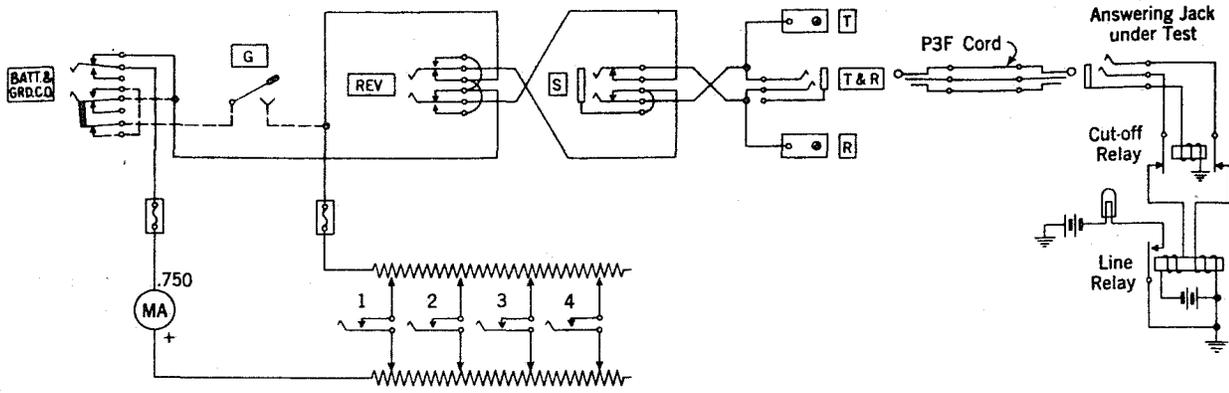

Fig. 1 - Line Relay - Battery on Ring, Ground on Tip.
3.04 For lines not arranged for prepayment coin service and P.B.X. trunks with battery on the ring and ground on the tip, the REV key should be normal and switch G should be open. See Fig. 1.